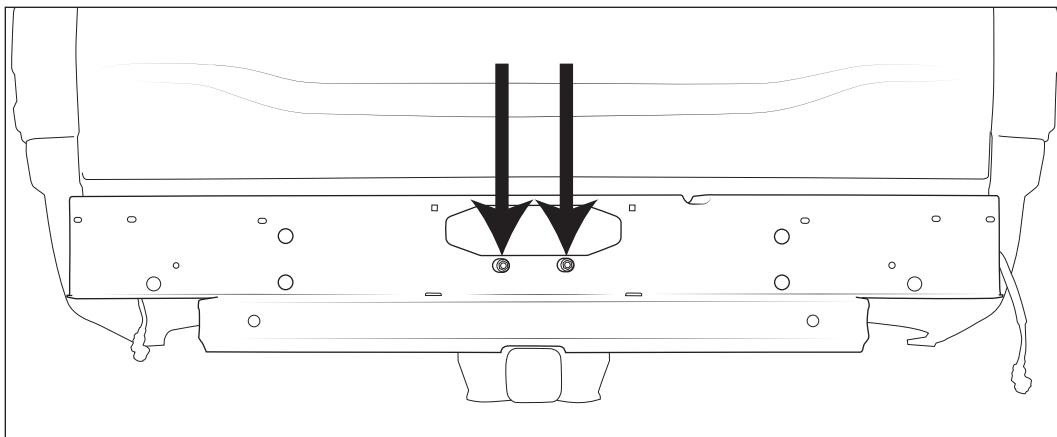

Figure 27
- 2. Loosely install the two factory nuts to hold Center Section in place (fig. 27)